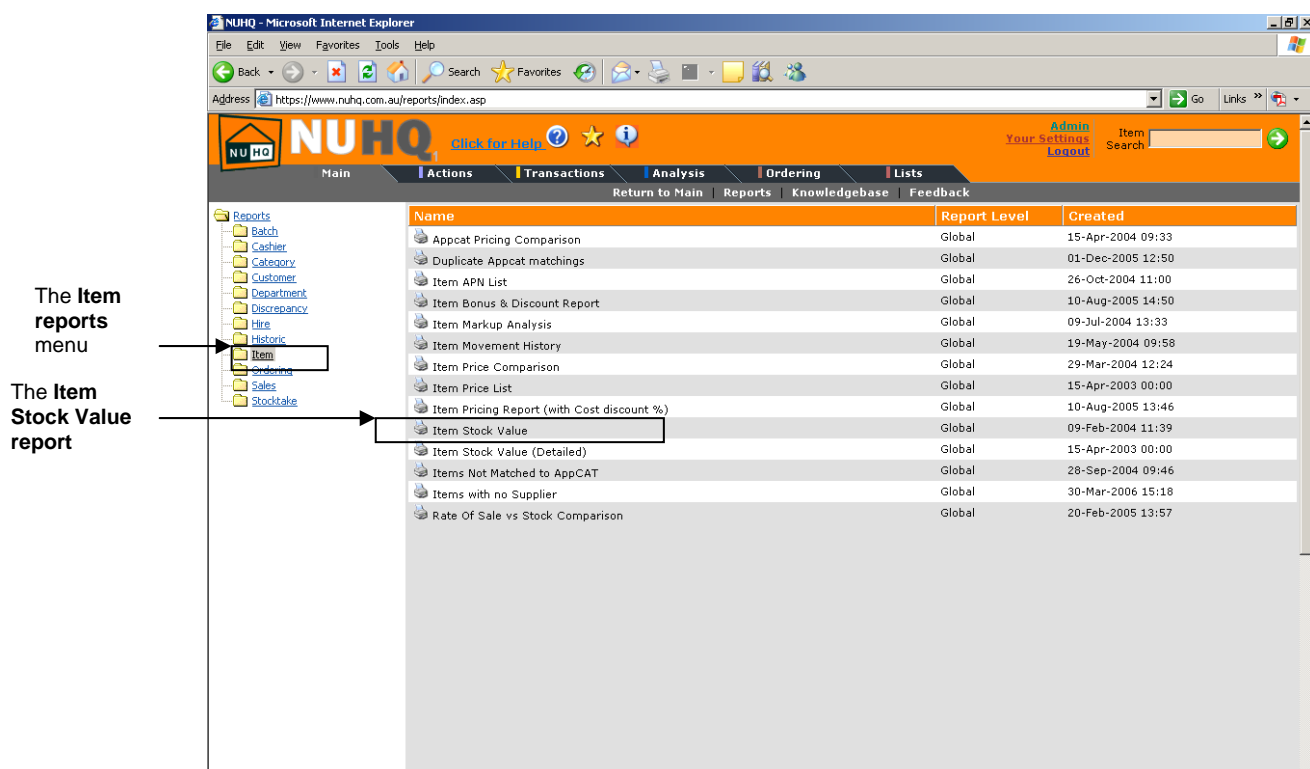

Figure 20: Fred NUHQ Reports Menu
- Click the **Item** folder, refer to Figure 20